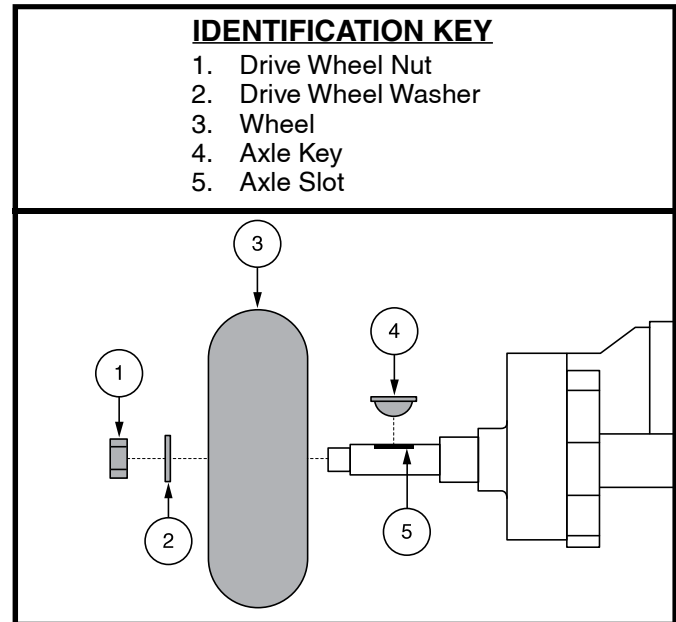

Figure 21. Wheel Replacement
3. Remove the drive wheel nut and washer from the axle. See figure 21.